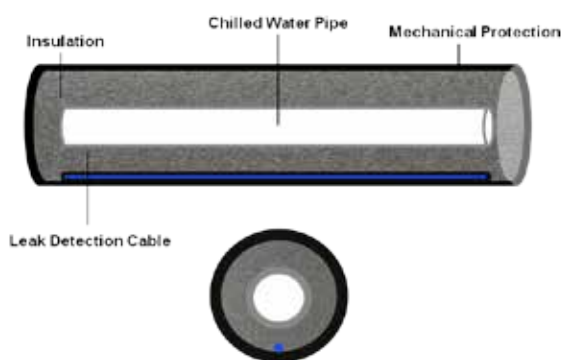
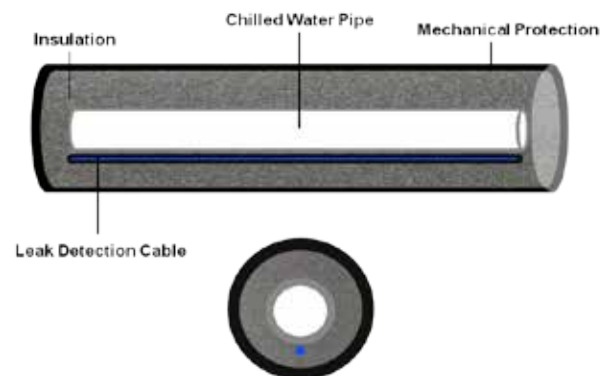

Figure 2.3.1
Figure 2.3.2
For pipe with insulation (without drip tray), figure 2.3.1 et figure 2.3.2 present two kinds of water sensing cable installation.
### Layout Explanation (Figure 2.3.1 & Figure 2.3.2) :
- The sense cable is installed in the insulation level, near the mechanical protection (Figure 2.3.1);
- The sense cable is installed in the insulation level, under the water pipe (Figure 2.3.2).